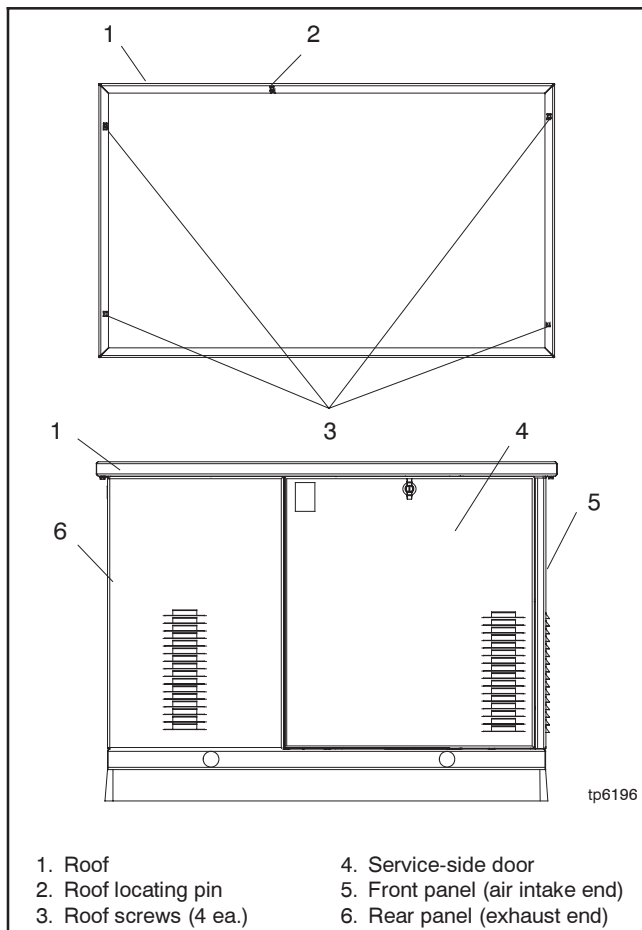

Figure 7-1 Generator Set Weather Housing
- a. Remove the enclosure service-side door. See Figure 7-1.
- c. Remove 4 roof screws. Lift the roof up and off. See Figure 7-1.